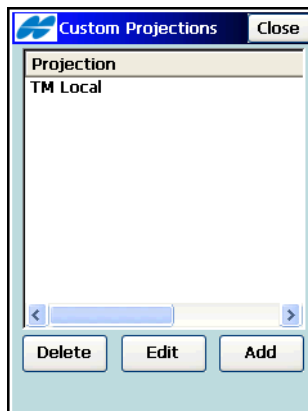

Figure 3-72. Custom Projections – Add New Custom Grid System
- **Custom** – opens the **Custom Projections** screen to add/edit user-defined projections (Figure 3-72 on page 3-75).
The *Custom Projections* screen (Figure 3-72) contains a list of custom projections (grid systems). Initially, this list is empty.